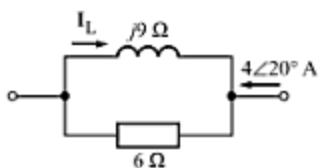

Fig. C-44
- C-22.** Use current division concept to find  $I_L$  for the circuit shown in Fig. C-44.